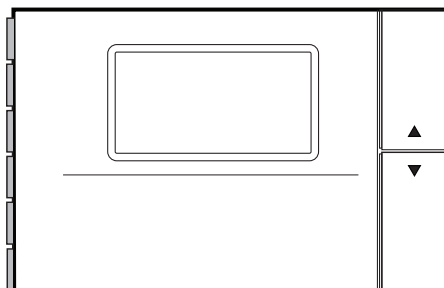

Figure 29
2.4.4.1 Operation of the Remote Room Sensor (Figure 29)